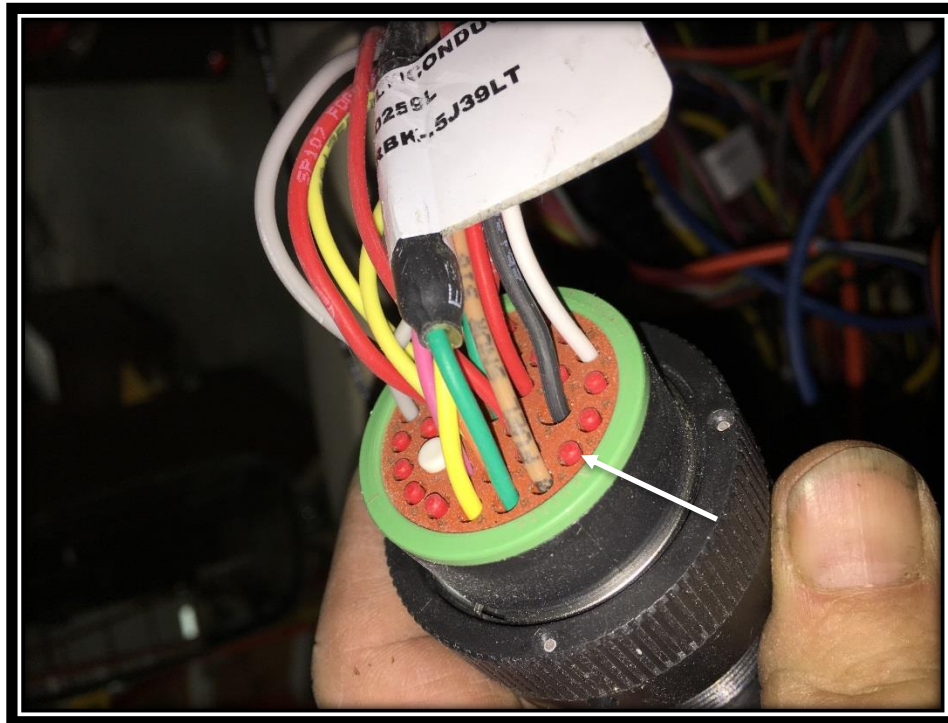

FIG. 5-1
16. Install socket end of replacement harness into cavity 31. Refer to FIG. 5-1.